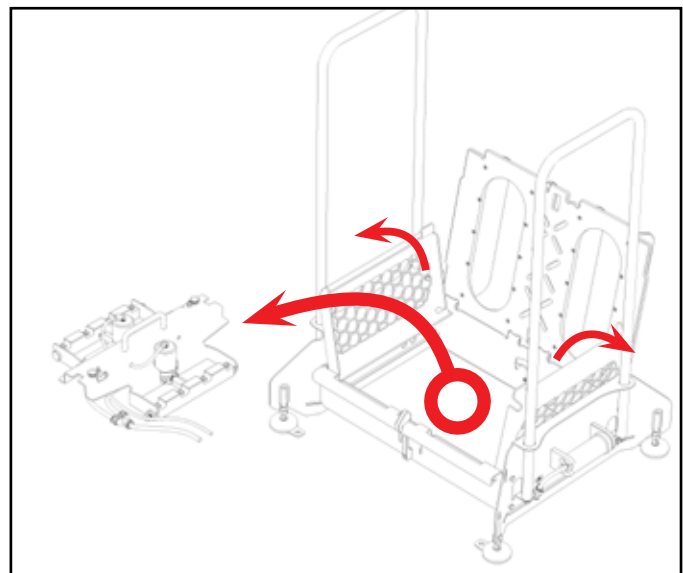

Fig. 7.3: Removing Plumbing Assembly
4. Pull up on the handle to remove the entire plumbing assembly [Figure 7.3].